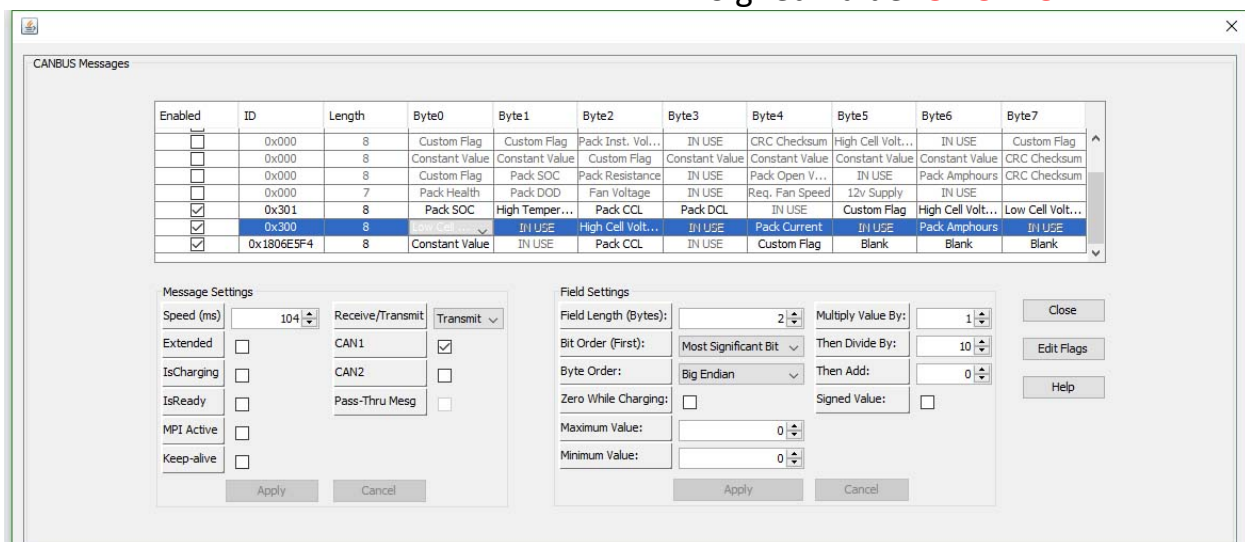

Fig. 8
- Make sure that the Message and Field Settings for **Low Cell Voltage** are the same as in (Fig 8).